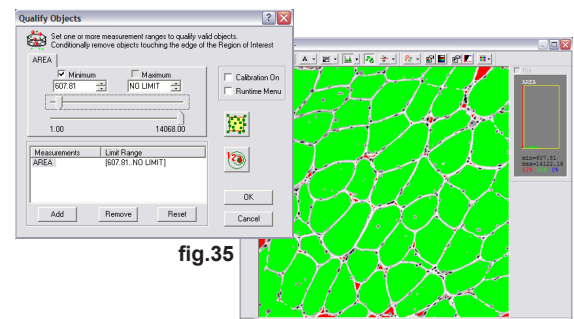

fig.35
6. Click the **Qualify** icon in the **Task** toolbar. Reject unwanted objects by moving the top slider to 1545 or until unwanted objects appear red (fig.35).